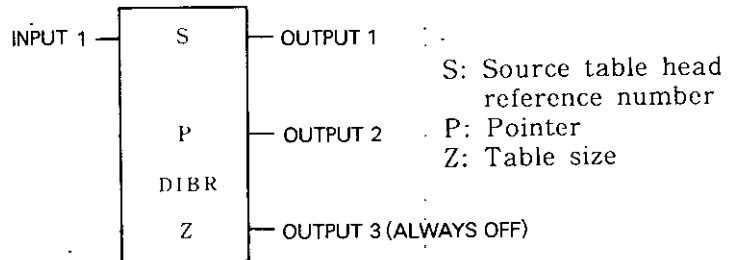

Fig. 5.68 DIBR General Form
- Fig. 5.68 shows the form of the block move 2 with destination index (DIBR).